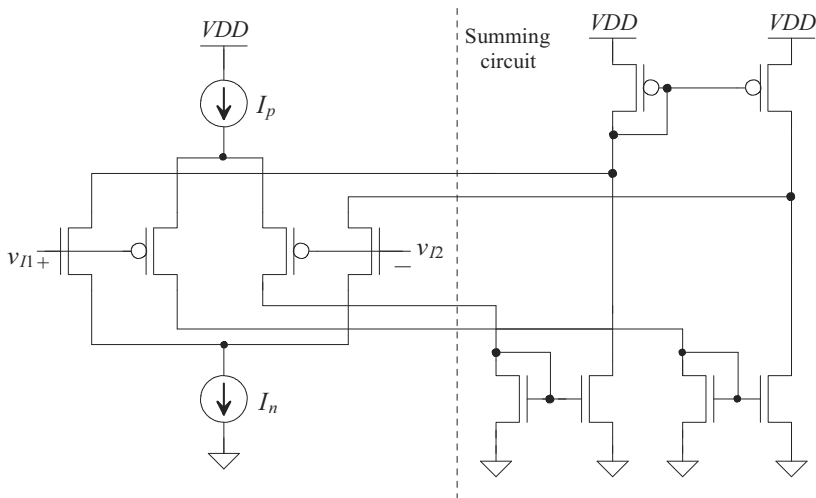

Figure 22.40 Summing circuit for Problem 22.14.
- 22.14** The circuit seen in Fig. 22.40 is an another example of a circuit that sums the currents from NMOS and PMOS diff-amps (so the input common-mode range can extend from beyond the power supply rails). Describe and simulate the operation of this circuit using the short-channel parameters in Table 9.2 and the bias circuit from Fig. 20.47.